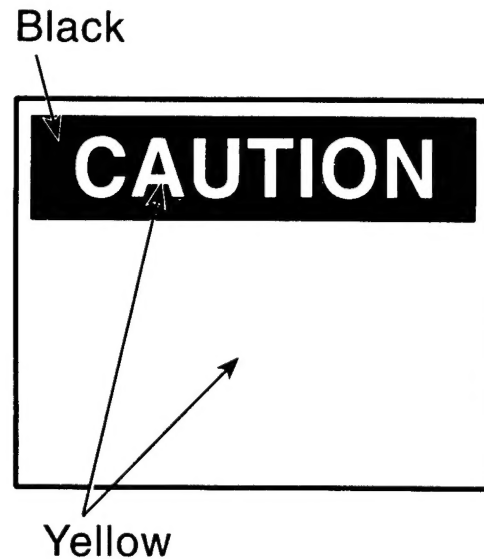

Figure 2. Example of a caution sign
■ **Design.** Design caution signs as follows, and see example at figure 2 and on the front cover.
—Hearing protection CAUTION signs should conform to specifications in figure 2.